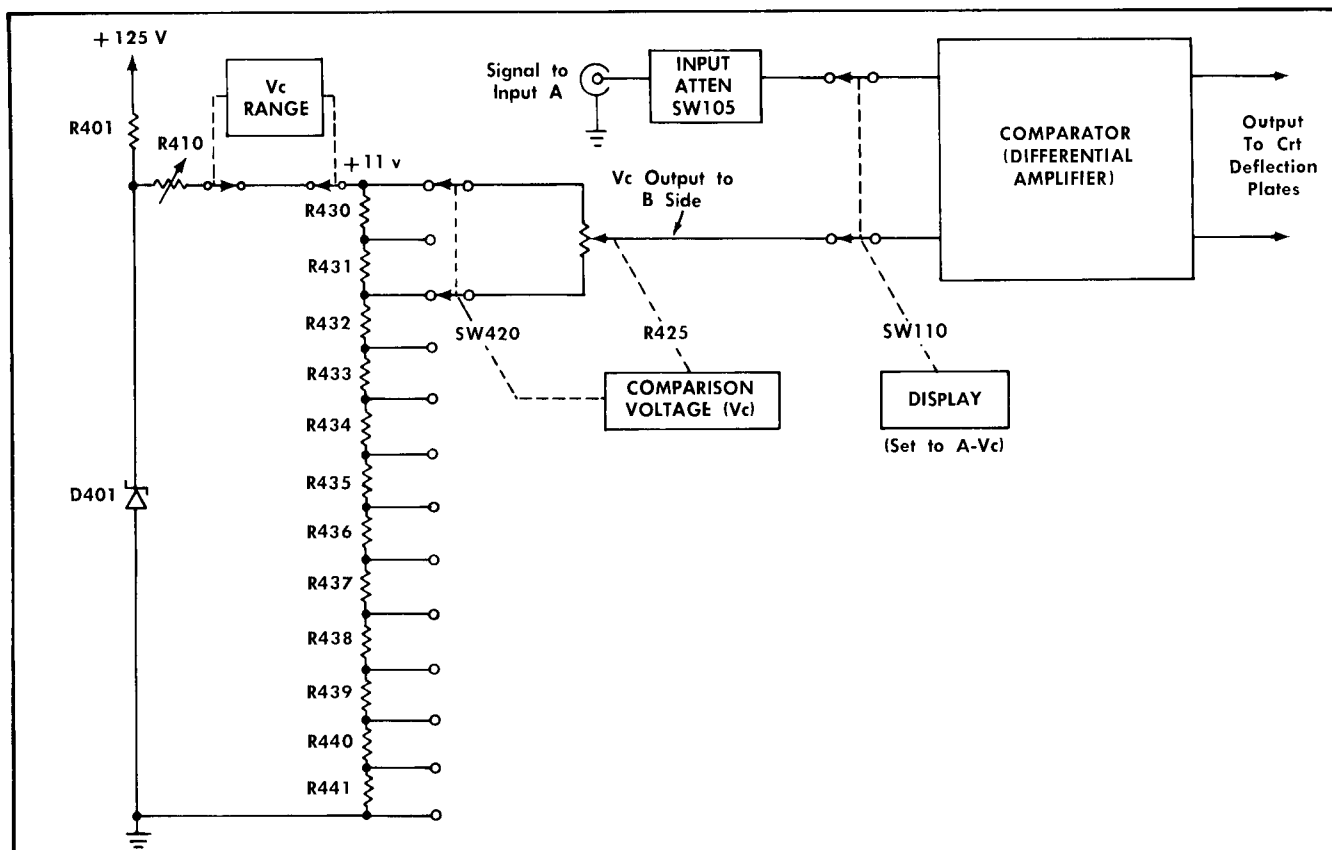

Fig. 3-1. Simplified diagram of the comparison voltage circuit and how it is connected to the amplifier for A-Vc differential-comparator mode of operation.
The comparison voltage output circuit (see Fig. 3-1 and the Switching Diagram) is composed of the COMPARISON VOLTAGE combination control SW420 and R425 with associated circuitry. The COMPARISON VOLTAGE control is a combination of two controls: (1) Switch SW420 selects the first digit within the range set by the Vc RANGE switch, and (2) the 10-turn potentiometer R425 selects the remaining digits.